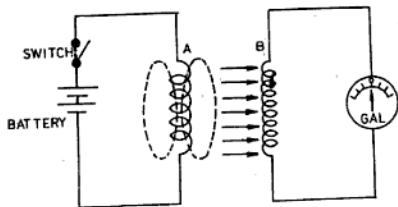

Fig. 11.7: Self and mutual induction
**Mutual Induction** Consider two coils *A* and *B*, placed side by side. A galvanometer is connected in the circuit of coil *B* and a battery, along with a switch is connected in the circuit of coil *A* as shown in Fig. 11.7.
*emf* and the process is known as *self-induction*. Now consider coil *A* (Fig. 11.7) which is connected to the battery through a switch and assume that coil *B* is not placed near it. The moment the switch is closed, a changing current will start flowing in the coil, which produces a changing flux linked with the coil itself and thereby inducing an emf in it. This induced emf is the self-induced emf or reactance emf (opposes the main supply voltage) and the whole phenomena is *self-induction*. The reactance emf is represented by  $L$  and is known as *self-inductance* of the coil. Its unit of measurement is henry (H).